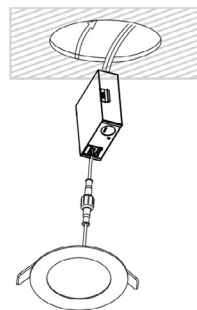

Figure 3
8. Push spring loaded clips on the fixture upwards and insert fixture base into the mounting hole. Release the clips and fixture will be pulled flush to the ceiling. **(Figure 3)**